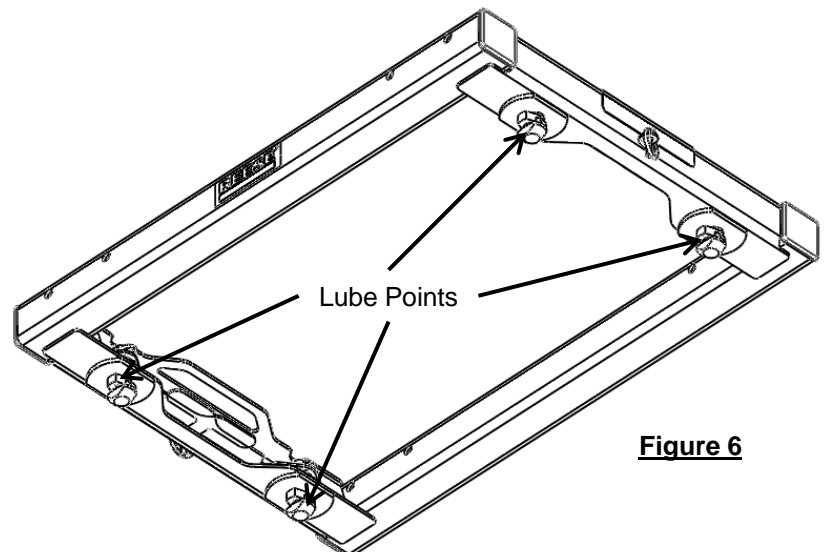

Figure 6
1. Lube feet with lithium grease for easier engagement as shown in Figure 6